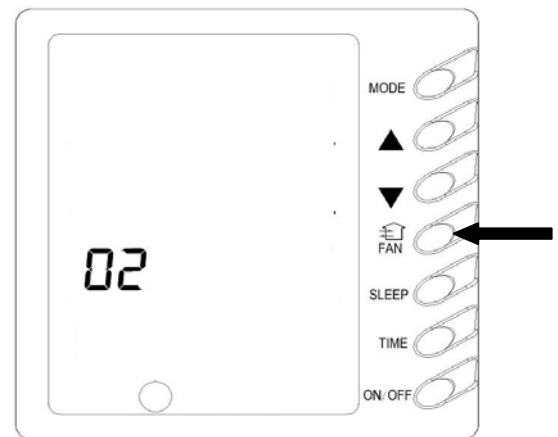

Fig. 11
10) Memory Function Setting (Fig. 11)